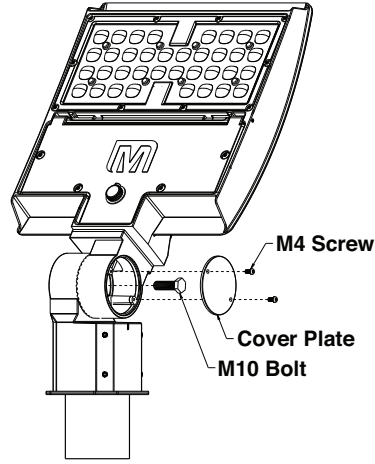

FIG. 3
3. To aim the fixture, remove the cover plate, loosen the M10 center knuckle bolt on the arm, adjust the arm to the desired angle (see **FIG. 3**).